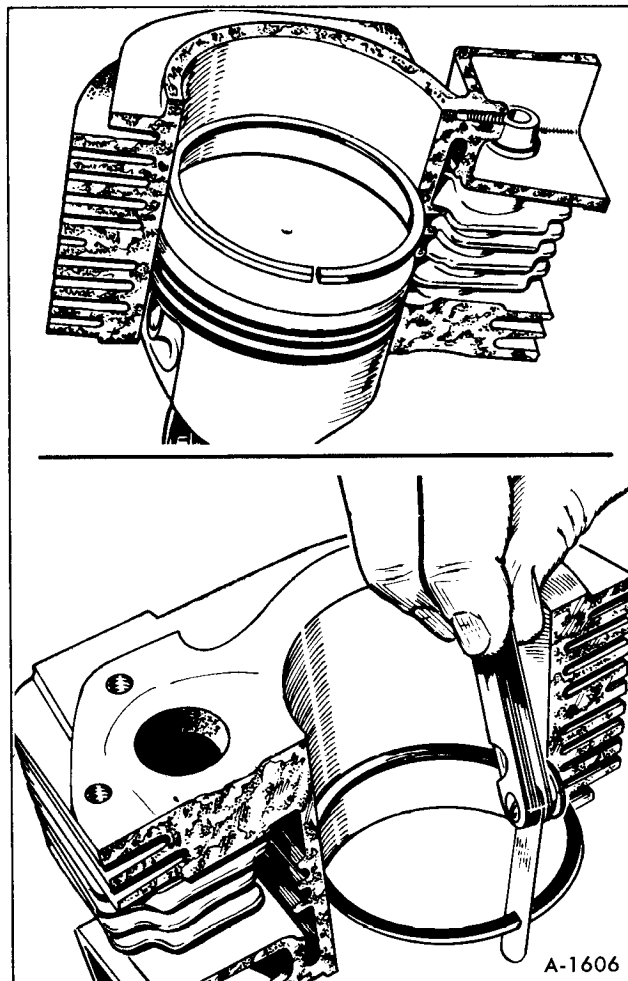

Figure 17—Checking Ring End Gap
a. Install the piston ring in the cylinder bore. Invert the piston and push the ring to the end of ring travel, about halfway into the bore, which trues the ring end gap. Check the gap with a feeler gauge as shown in Figure 17.